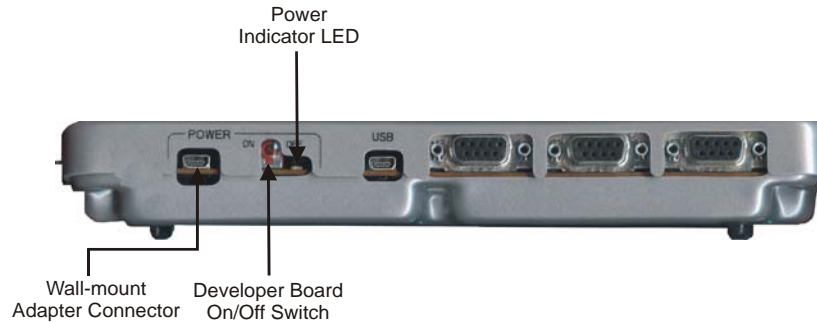

Figure 2-3: Developer Board Power Switch and Adapter Connector (Rear)
Caution: Before connecting the power supply, make sure that the Developer Board On/Off switch (located in the rear of the board, as shown in Figure 2-3, on page 9) is in the **OFF** position.
Caution: When using the Wall adapter, make sure to insert it into the Power Adapter Connector (J210) and not to the Mini-AB USB connector (J380), as shown in Figure 2-3, on page 9.
1. Connect the supplied Wall adapter to the Wall Adapter Connector (J230) (Figure 2-3).
- Connect (Figure 2-3) either the supplied RS232 cable with a male D-type connector to RS232-1 connector (J300), or the supplied Mini-AB USB cable to the USB connector (J380).
1. Turn on the Developer Board power by switching the power On/Off switch (S200) to **ON** (Figure 2-3, on page 9).